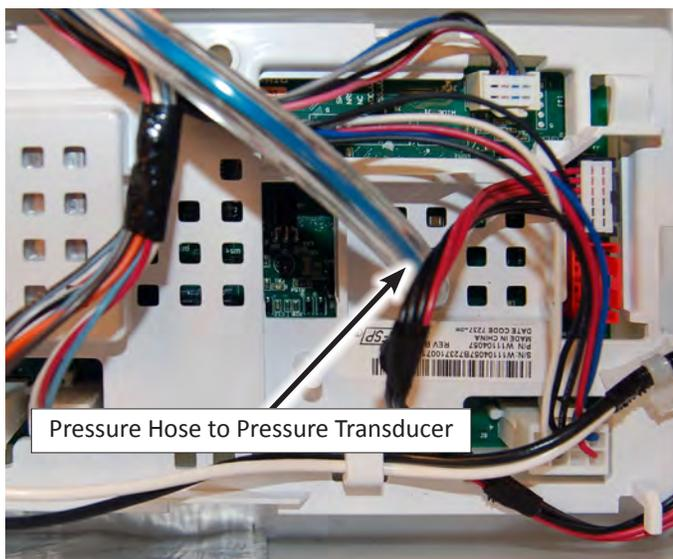
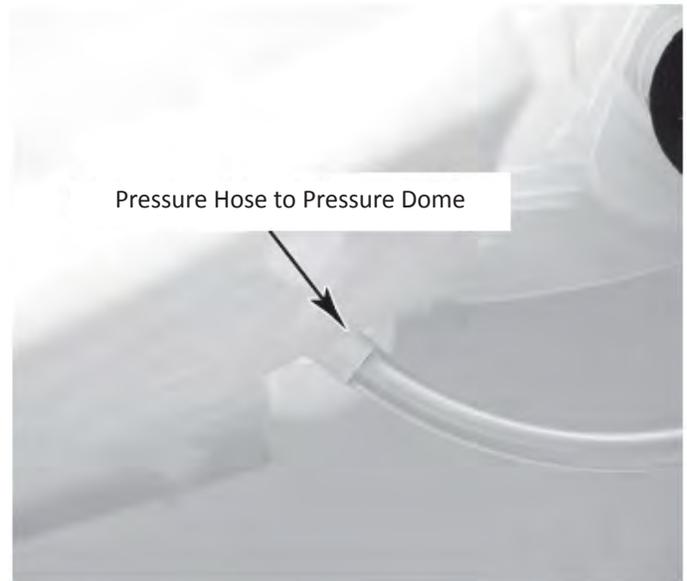
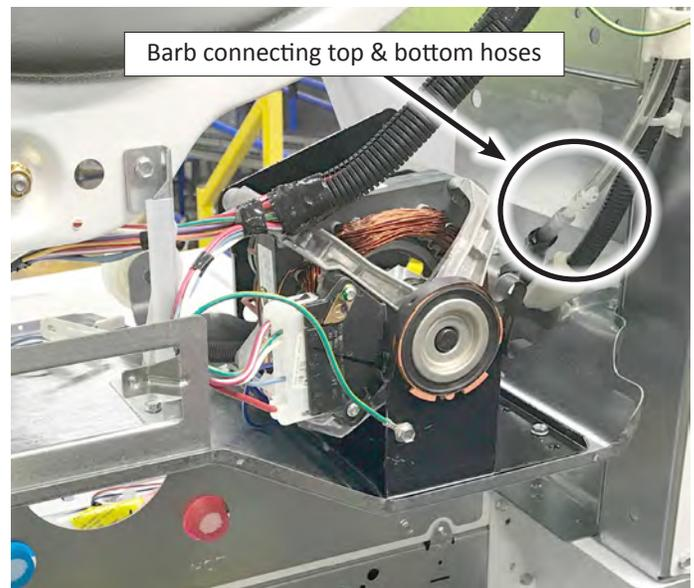

Figure 1
Figure 2
Figure 3
5. Check hose connections between the pressure transducer (Figure 1), the pressure dome attached to the tub (Figure 2), and the barbed connector between hoses is correctly assembled. **NOTE:** the barbed connector is located in the dryer compartment to the right of the motor (see Figure 3).